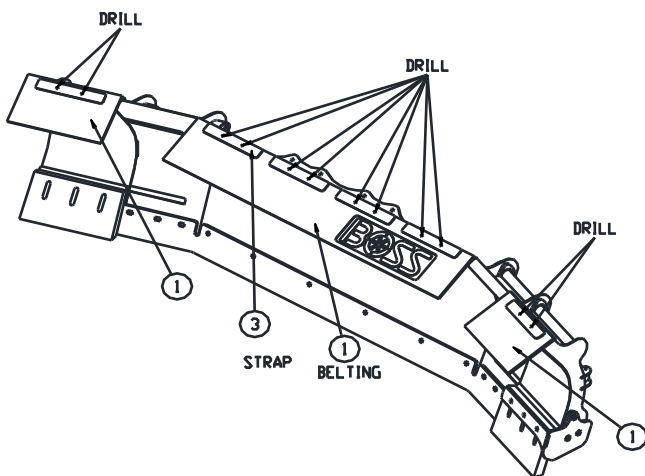

Figure 12. Clamping Orientation
2. Clamp the three pieces of Belting (1) to the plow as shown in Figure 12. The center section must be centered on the plow. The pieces on the wings must be flush with the back of the upper channel and the outermost end of the wing.
3. Using the holes in the Blade Skin as a guide, mark and drill through the Belting (1) using a 3/8" drill bit. See Figure 12.
4. Place Straps (3) on top of Belting (1).